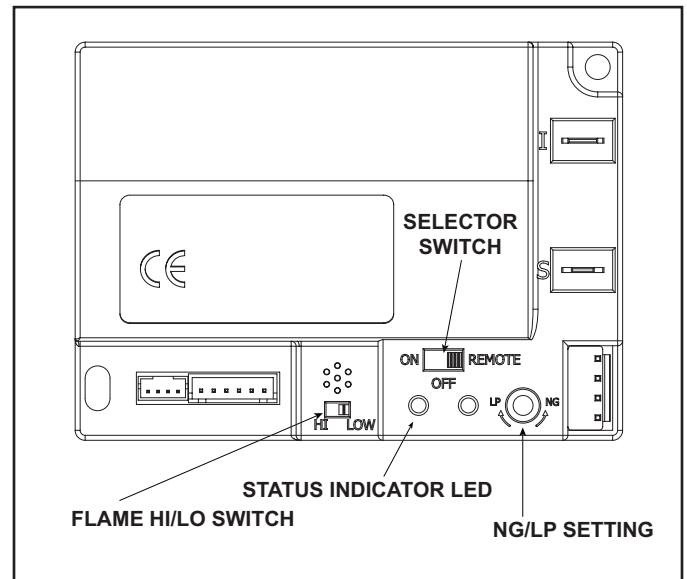

Figure 12.4 Control Module
1. The control module has an ON/OFF/REMOTE selector switch that must be set. See Figure 12.4.
2. If using a wired wall switch with the module in REMOTE mode, the flame output can be adjusted with the HI/LO selector switch on the module. See Figure 12.4. Note that the flame HI/LO selector switch will become inactive once an optional remote control (RC300AU) is programmed to the control module. Note that the control module will always ignite the fireplace on HI and remain so for the initial 10 seconds of operation. If the HI/LO is switched to the LO position, the flame output will automatically drop to the lowest setting after the flame has been established for 10 sec. After this 10 second period, the flame can be adjusted from HI to LO with the switch.